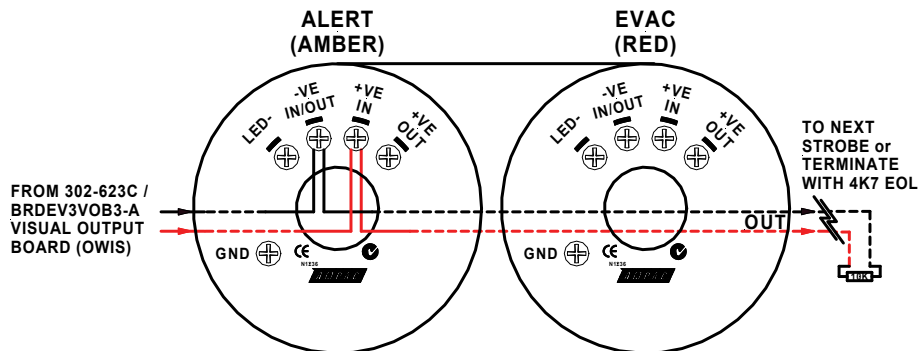

Figure 3: Visual Warning Strobe Connections (LED STROBES) 208-0063
If no Visual Warning Strobes are fitted to an output, terminate with 10K EOL for XENON STROBES or 4K7 EOL for LED STOBES. Otherwise terminate the last Visual on a line with the correct EOL (see Figures 3 and 4 )
**NOTE:** Circuit to Visual Strobes are polarised refer to Figures 3 and 4 for more detail.